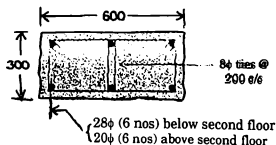

Figure 1
- The plan of a ground floor column in a building is shown in Figure. 1. It is desired to reduce the longitudinal bar diameter from 28 mm. to 20 mm. above the second floor level. Determine a suitable lap length. Assume M 25 concrete and Fe 415 steel.